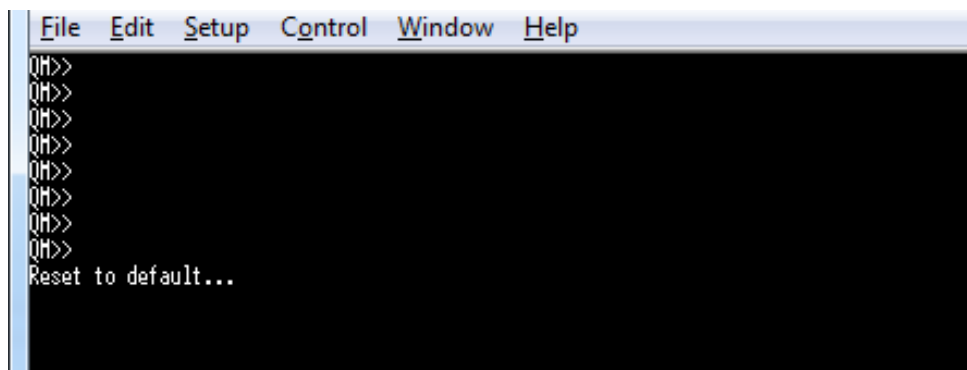

Figure 7.16: Terminal - load default settings
7. In response, a message appears: "Reset to default..."(figure 7.16).